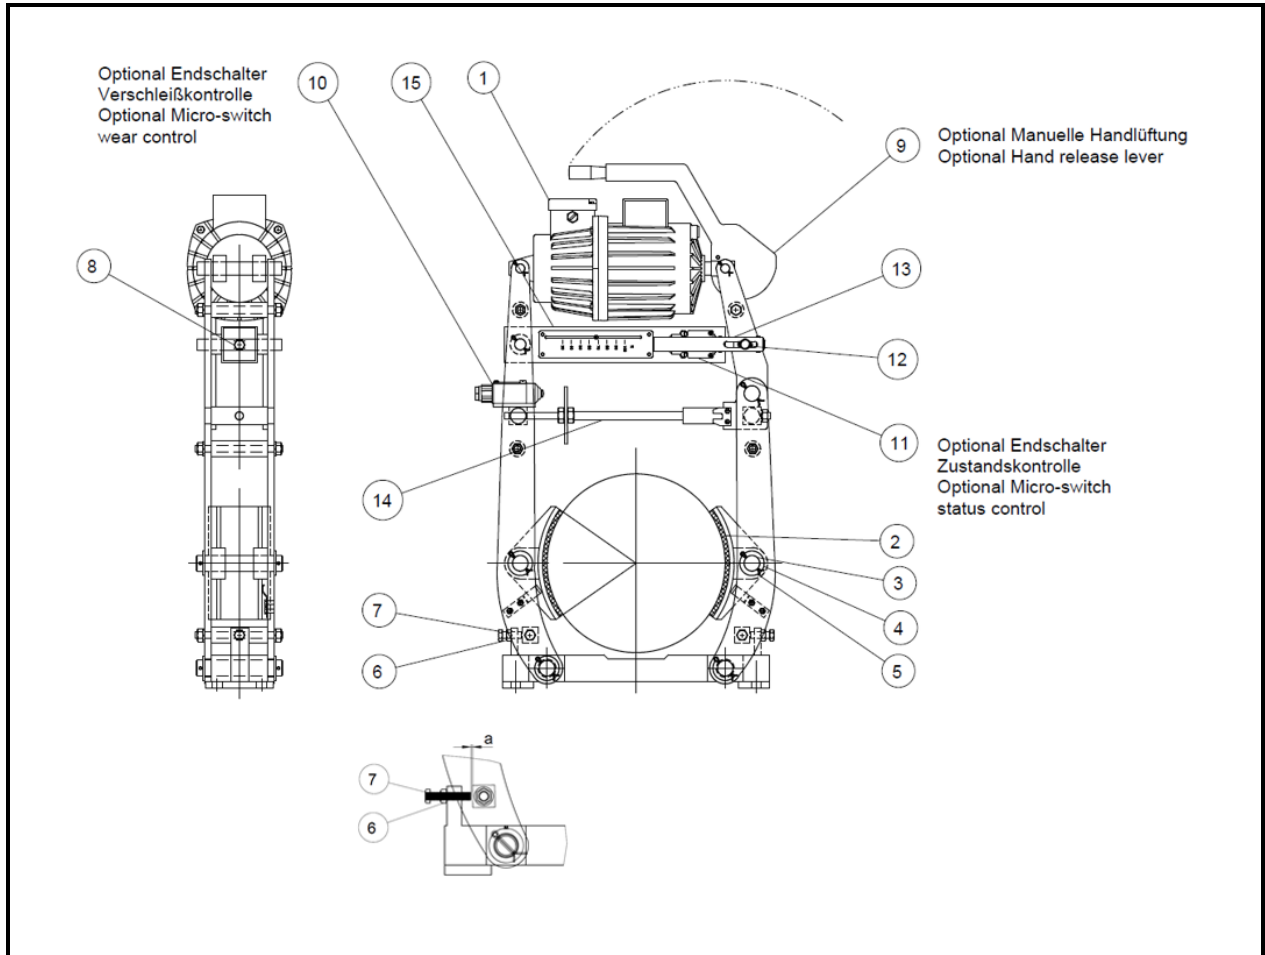

Fig. 2.1
The brake pad distance is set after the brake calliper has been assembled and after pad wear through adjusting / readjusting, see Fig. 2.1.
The setting/adjusting process of the FEA version automatic brake has to be carried out only by using the two-adjusting screw (item 7), shown in Fig. 2.1.
- For the purpose of adjusting, loosen the nut (item 6) and turn the adjusting screw (item 7) by approx. 2 revolutions out of to increase the gap.
- With the adjusting screws (item 7), the total clearance of 3 mm on one side is evenly spread to 1.5 mm on each side Fig. 2.1 measure a on both side balancing. Once the adjustment has been carried out, secure the position of the adjusting screws (item 7) using the nuts (item 6).